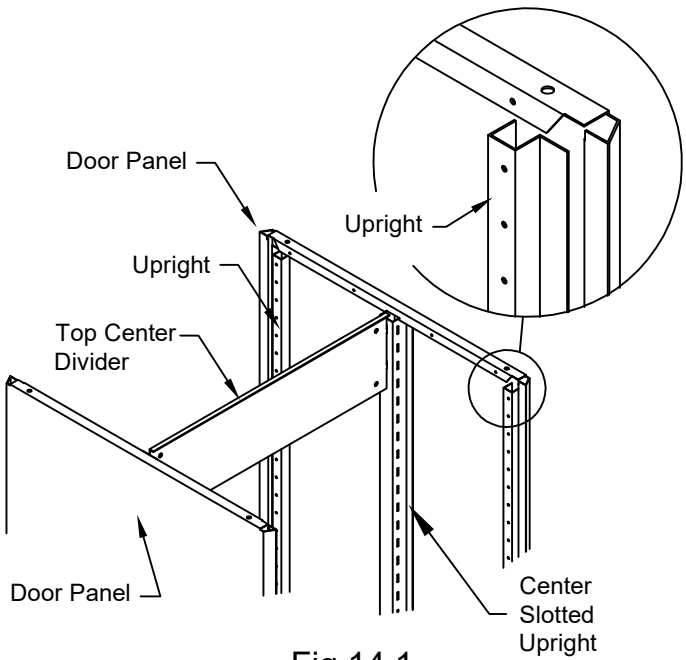

Fig 14.1
1. Install (2) front uprights per opening when using any of the following options: (Fig. 14.1)